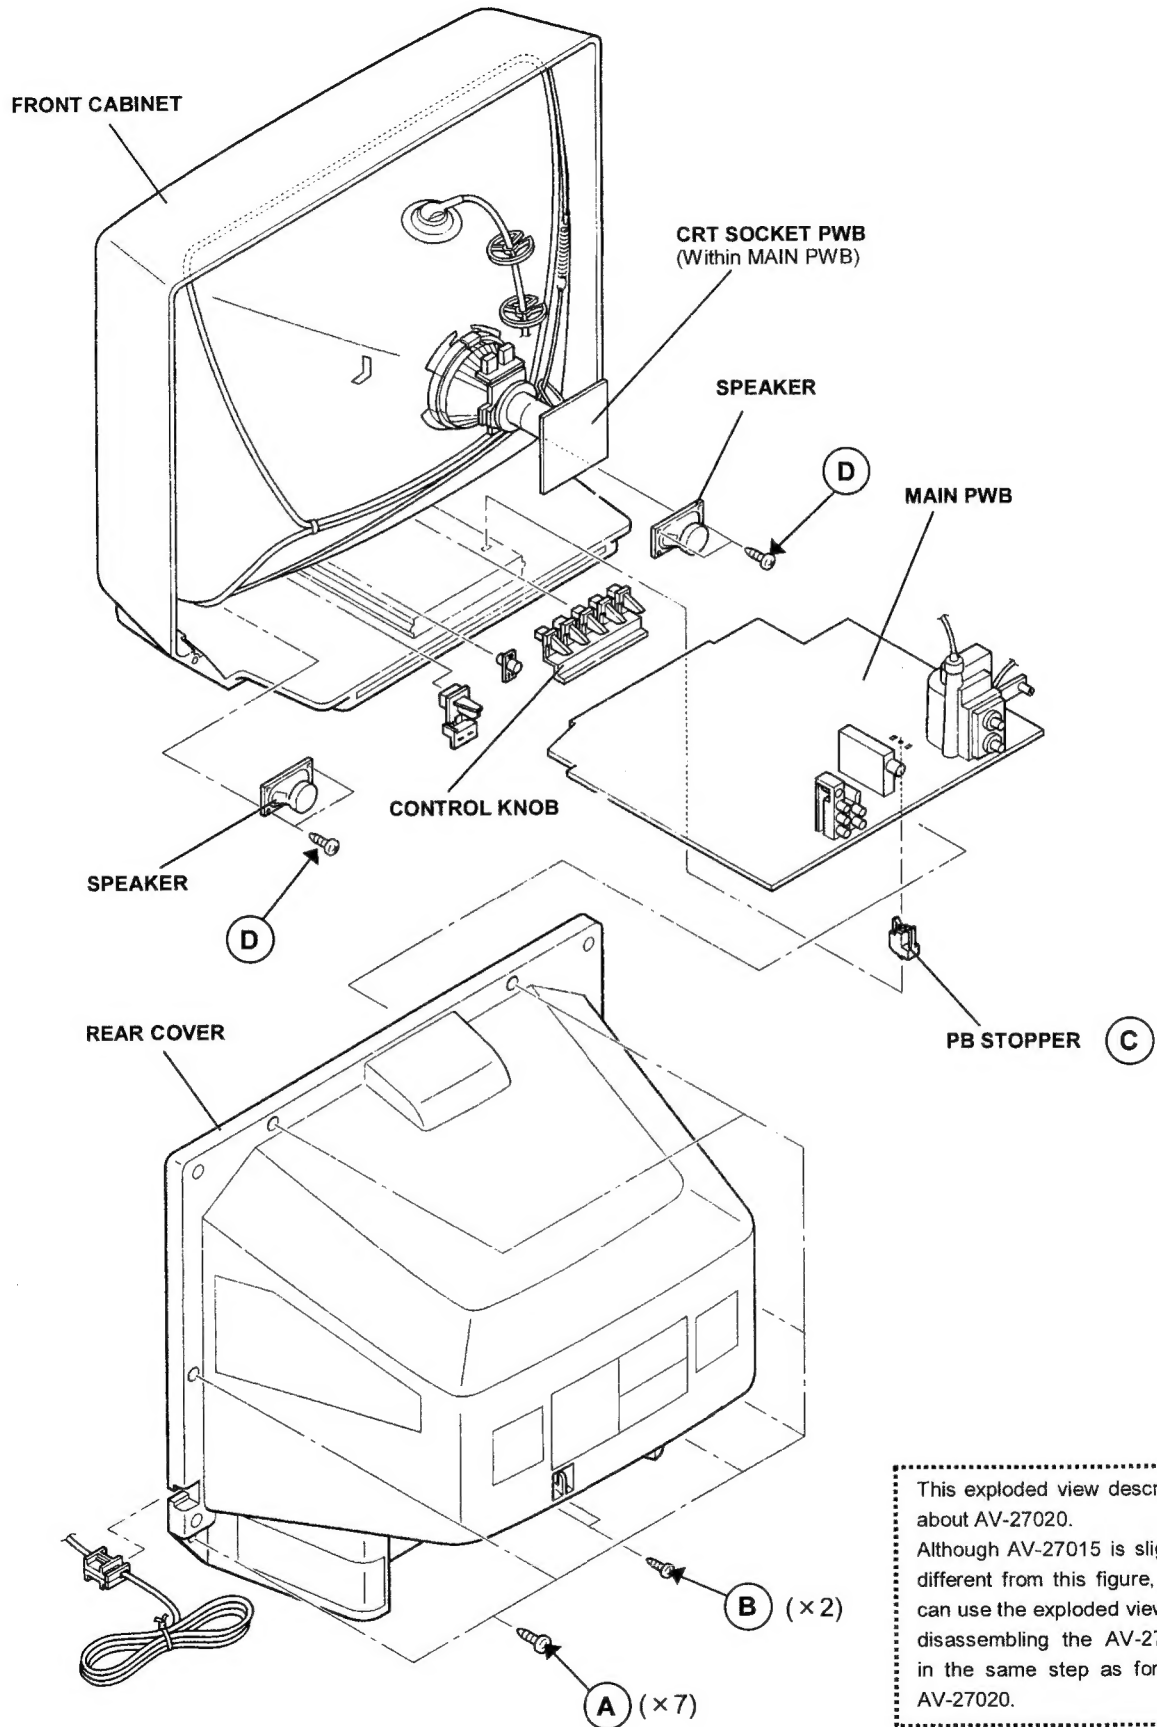

Fig.1
2. Remove the 7 screws marked (A) and 2 screws marked (B) as shown in Fig.1.
2. Remove the 7 screws marked (A) and a screw marked (B) as shown in Fig.1.
1. Remove the 2 screws marked (D) as shown in Fig.1.
(4) System constant check and setting <ol style="list-style-type: none"> <li>Press SLEEP TIMER key and, while the indication of "SLEEP TIMER 0 MIN." is being displayed, press DISPLAY key and VIDEO STATUS key on the remote control unit simultaneously.</li> <li>The SERVICE MENU screen of Fig.1 is displayed.</li> <li>While the SERVICE MENU is displayed, again simultaneously press the DISPLAY and VIDEO STATUS keys to display the Fig.2 SYSTEM CONSTANT screen.</li> <li>Refer to the SYSTEM CONSTANT table and check the setting items. Where these differ, select the setting item with the MENU UP/DOWN key and adjust the setting with the MENU LEFT/RIGHT keys. (The letters of the selected item are displayed in yellow.)</li> <li>After adjusting, release the MENU LEFT/RIGHT key to store the setting value.</li> <li>Press the EXIT key twice to return the normal screen.</li> </ol>	 <p>Fig.1</p>
(7) SERVICE MENU setting Verify what to set in the SERVICE MENU, and set whatever is necessary.(Fig.1) Refer to the SERVICE ADJUSTMENT for setting.